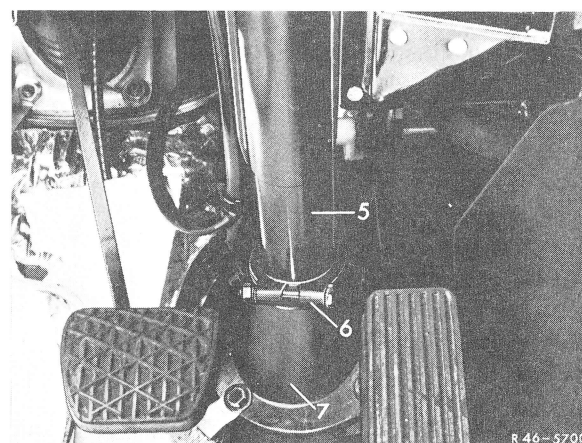

Fig. 2
- 6 Unscrew hex bolts holding cover plate (7) to front end (Fig. 2).
9 Loosen clamping screw on fastening clip (6) (Fig. 2 and 6).